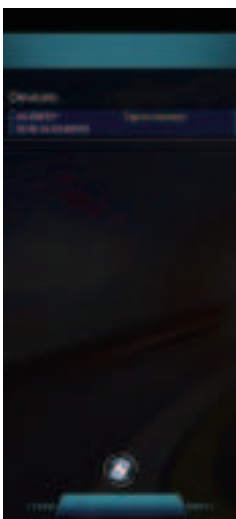

Fig. III.4.1
2) If the APP is pairing devices for the first time, opening the APP will directly enter the device list interface, and clicking the device to be paired will automatically connect and pair, as shown in Fig.III.4.1.